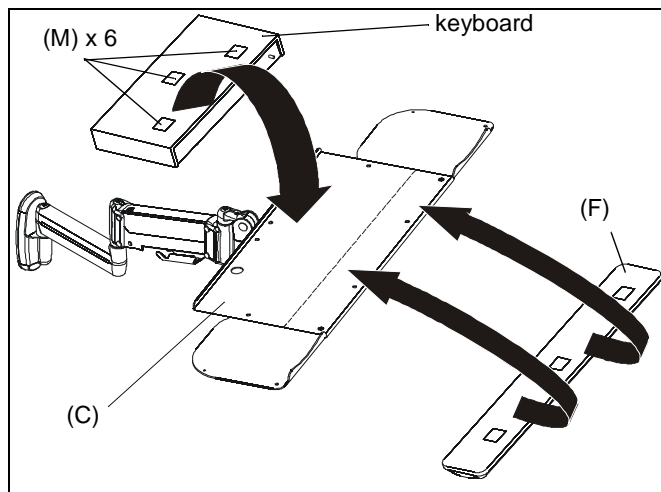

Figure 41
1. Remove adhesive backing from one side of hook and loop connectors (M).
2. Place hook and loop connectors (M) on bottom of the keyboard and bottom of wrist pad (F) approximately as shown. (See Figure 41)
3. Remove the adhesive backing from the other side of the hook and loop connectors (M).
4. Firmly place keyboard on keyboard tray making sure to leave room for the wrist pad if necessary. (See Figure 41)
5. Firmly place wrist pad (F) on keyboard tray in front of the keyboard. (See Figure 41)